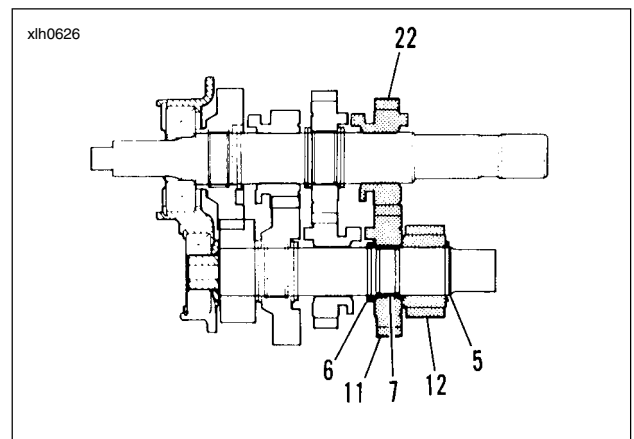

Figure 6-34.
See Figure 6-34. Using **RETAINING RING PLIERS** (Part No. J-5586) remove and discard retaining ring (5) next to countershaft 5th gear (12). Slide countershaft 5th (12), mainshaft 2nd (22) and countershaft 2nd (11) off end of shafts.